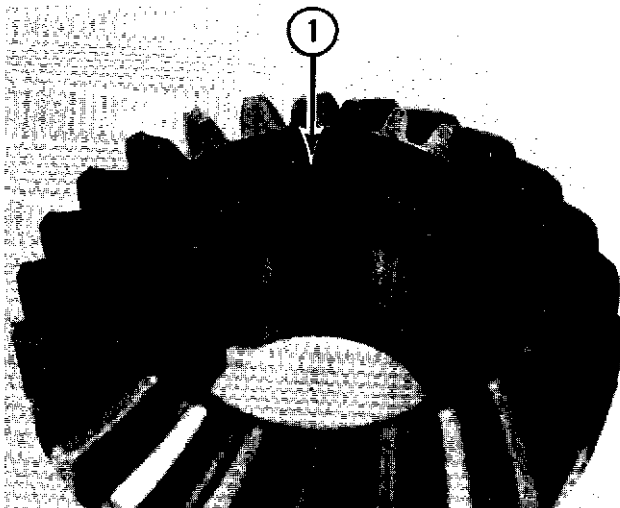

Fig. 11-24
- G. Inspect the "O" ring (1, Fig. 11-24) in the gear cluster, replace if worn.